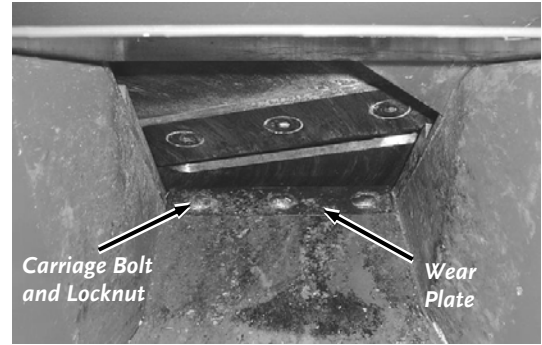

Figure 34
1. To adjust the Wear Plate Gap, loosen the three Nuts on the Carriage Bolts with a 7/16" wrench just enough so the Wear Plate will move but still have a slight resistance. Now you can slide the Wear Plate up or down (in or out) to achieve the correct gap setting (**Figure 34 and 35**).